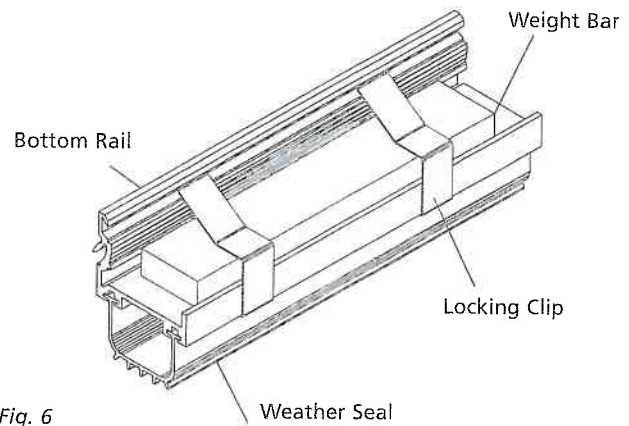

Fig. 6
- r) Place the weight bar provided on the bottom rail. Secure the weight bar with the two spring clips provided 300mm from each end of the weight bar. (Fig. 6)